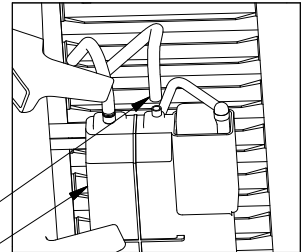

Figure A7
11. **Detach vent tube.** Locate the large canister near the rear of the truck, under the bed. Detach the tube in the middle of the canister using a pair of pliers, see Figure A7.